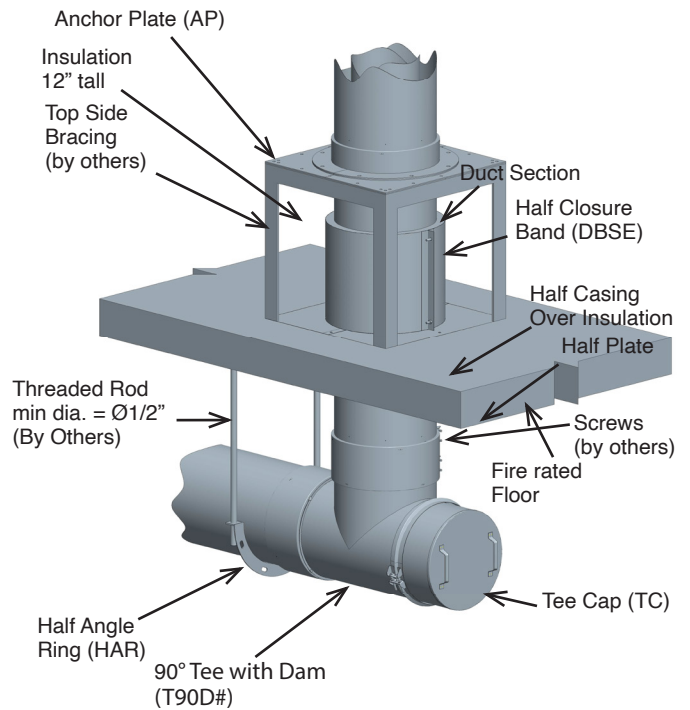
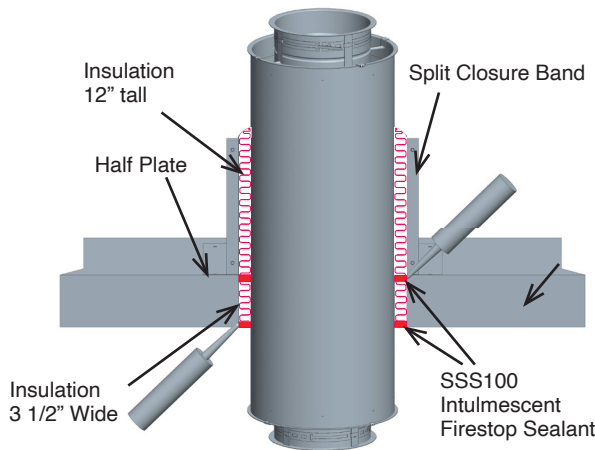

Figure 107: Supports for Duct passing through a fire-rated Floor-Ceiling (DIS3Z only)
Figure 109: Through Penetration Firestop fire-rated Floor Penetration (DIS3Z only)
Supports for ducts that penetrate a fire-resistant floor are to be positioned on the top side of the floor. Include supports as per the height limits in Table 5 and use either an Anchor Plate (AP) or an Anchor Plate with Length (APL) installed above structural framing members as shown in Figure 107. Where a transition from horizontal to vertical occurs beneath a floor / ceiling assembly, support the horizontal portion beneath the floor using Half Angle Rings (HAR) with a minimum 1/2" dia. threaded rod. Install one HAR on the section adjacent to the Tee and include additional Half Angle Rings (or other, appropriate supports) for the horizontal portion of the system in accordance with Table 7.
NOTE:- For Floor Penetration, use one TPFK. See Figure 109 and Figure 107.
4. Apply a minimum 1/2" depth of S-TPFS (SSS100 from SpecSeal), flush with both surfaces of the wall. See Figure 109.